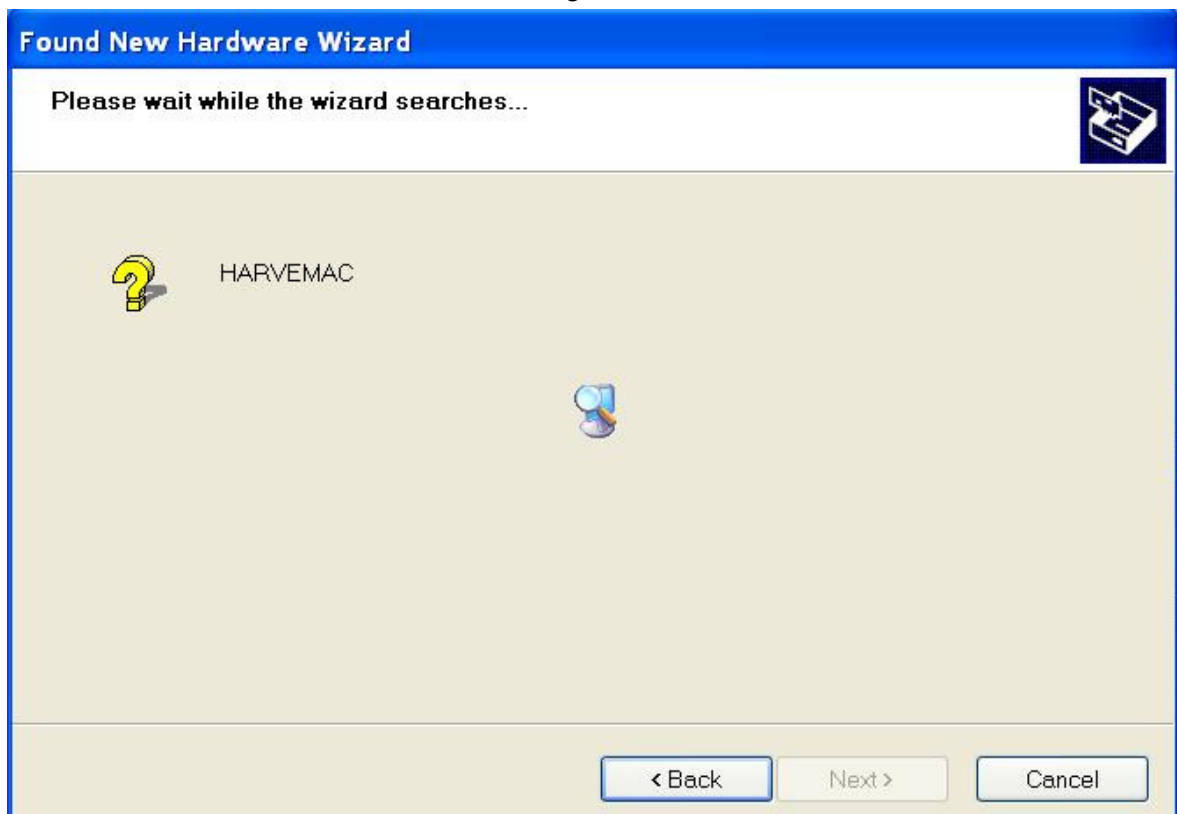

Figure 3
2. Click "Next" while the wizard searches, as figure 3.